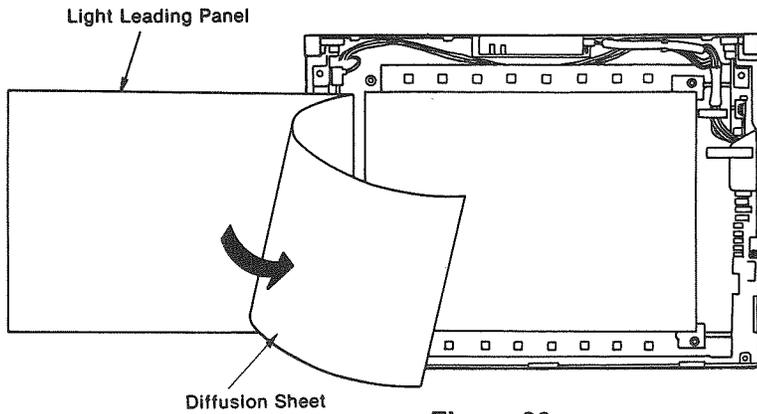

Figure 36
- (1) After the disassembly step (7) of "4.7 LCD unit" is done, open the diffusion sheet as shown in Figure 36.